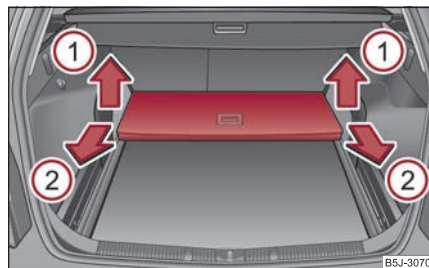

Fig. 83 Luggage compartment: remove variable loading floor
- Lift up the loading floor in direction of arrow ① ⇒ fig. 83 and take out the loading floor by pulling in direction of arrow ② ⇒ fig. 83.